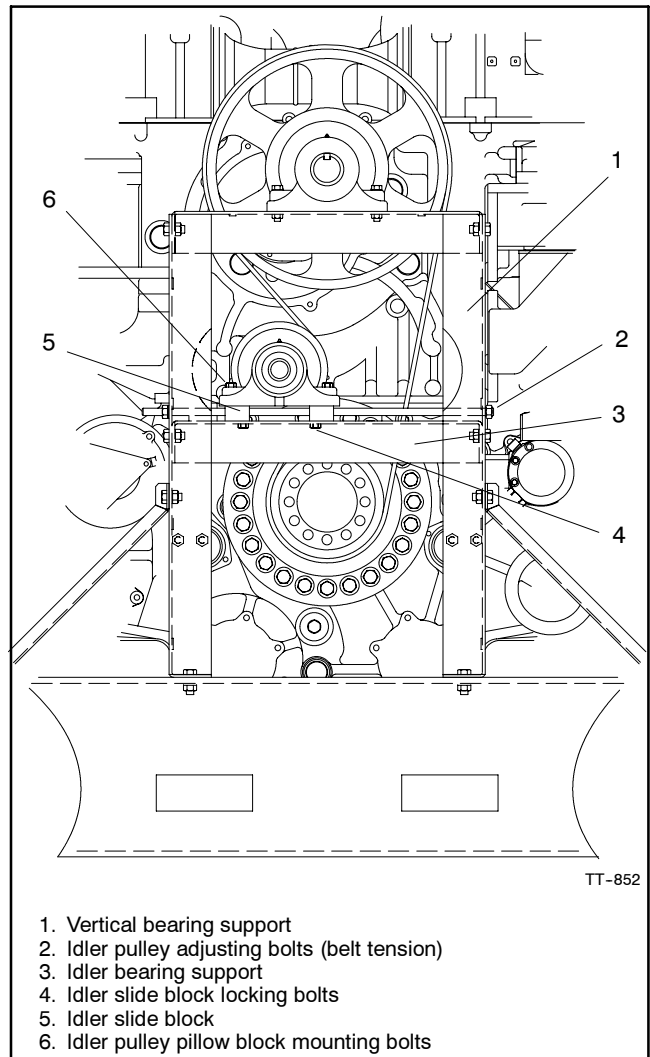

Figure 3-19 Idler Pulley Pillow Block Mounting on Fan-Bearing Support, Rear View
- a. Verify that the idler pulley pillow block to idler slide block mounting bolts (topside) are torqued to 92 Nm (68 ft. lb.) See Figure 3-19.
- e. Check the fan belt tension using a poly-V (serpentine) belt tension gauge. See Figure 3-20 for belt tension specifications. Adjust the belt tension by turning the two idler pulley adjusting bolts. See Figure 3-19 for location.